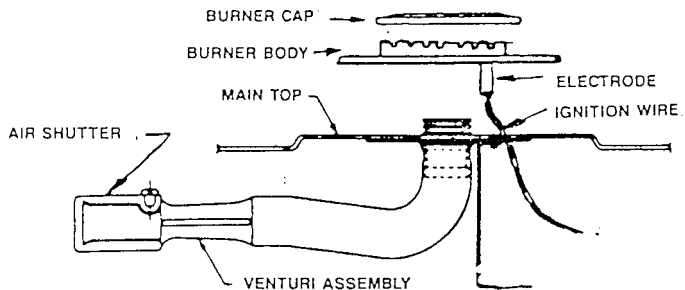

Figure 28
Lift off four (4) burner caps. (See Figure 28.) Remove one (1) screw at each burner body. Pull each burner body upwards and disconnect the ignition wire at the electrode.